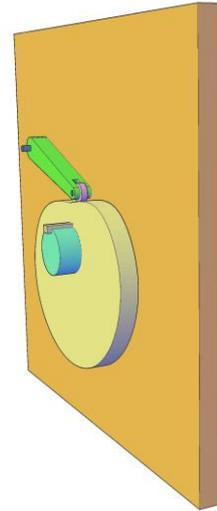
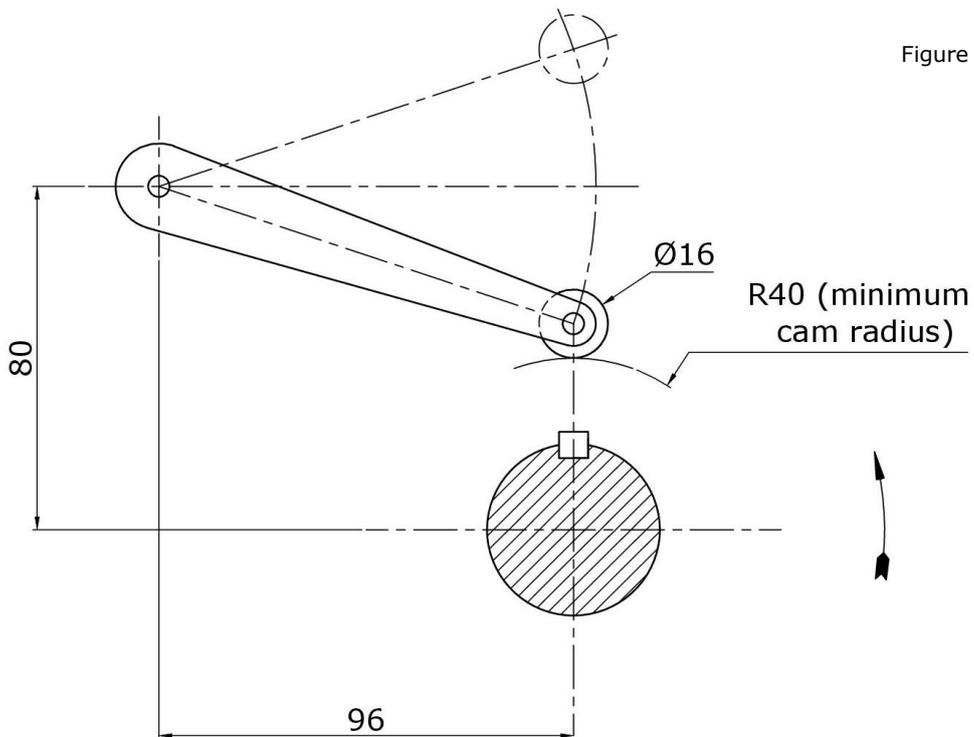

Figure 7a
Figure 7b
Figure 7a shows an illustration of a radial arm disc cam which rotates and imparts the motion to an oscillating roller-ended follower. Details of the cam centre and the follower are given in Figure 7b. The cam causes the follower to rise and fall about a mean horizontal position.
- a) copy figure 7b; (2)